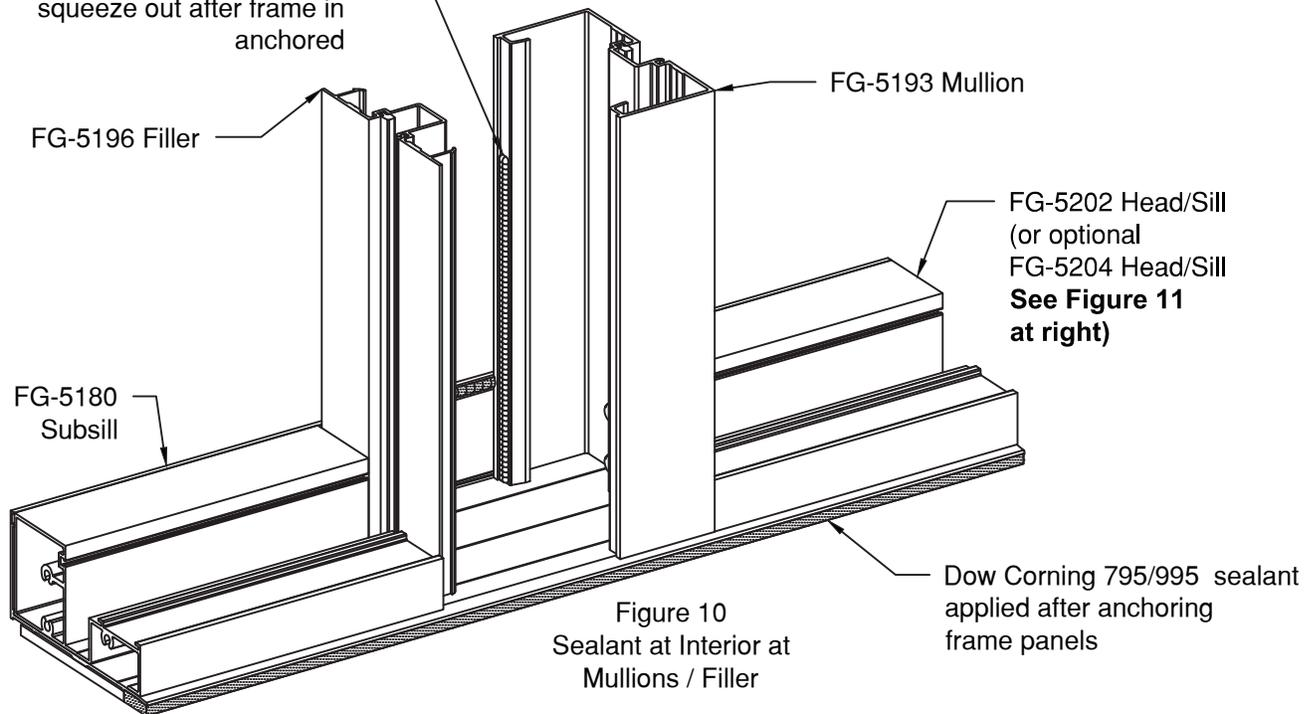

Figure 10
3.2.2 Prior to assembling each additional panel frame, apply 12" of Dow Corning 795/995 silicone to bottom of interior snap engagement. See **Figures 10 below**.